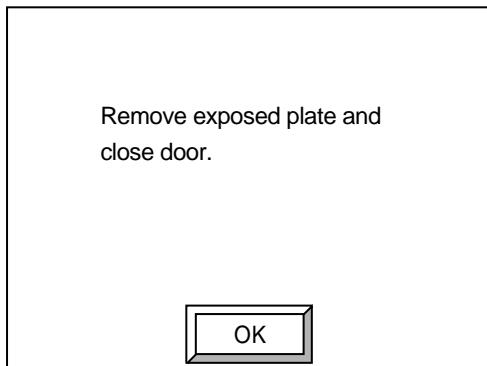
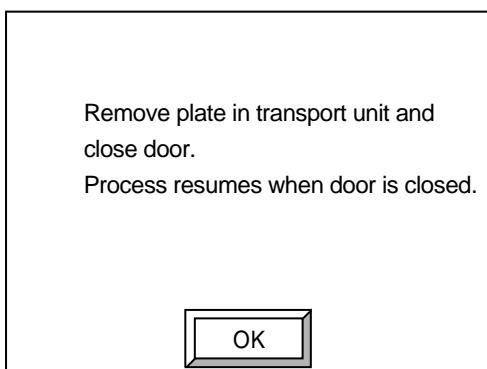
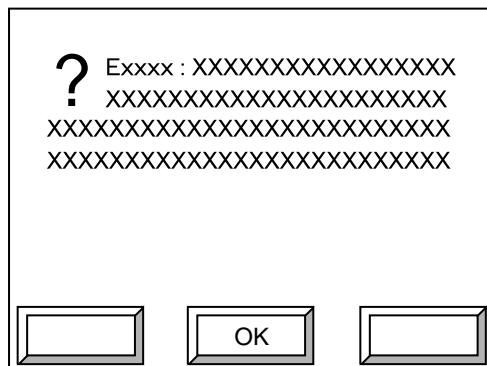
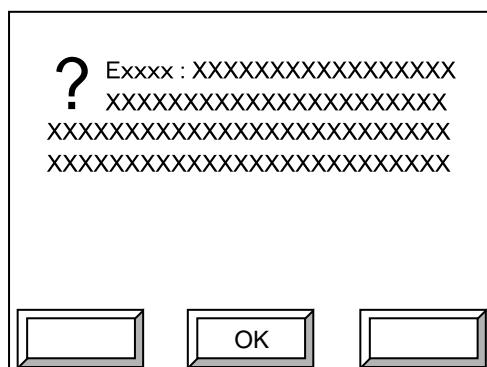

Fig. 7-1 Plate removal request message (1)
Fig. 7-2 Plate removal request message (2)
Fig. 7-17 Error display screen (1)
Fig. 7-19 Detailed error message screen
When certain operations are required of the operator by output command from the host computer or other reasons. A message like one of those shown in Fig. 7-1 through Fig. 7-15 and Fig. 7-17 through Fig. 7-19 will appear in the display and a buzzer will beep intermittently. If this occurs, follow the command of the request message.
**[NOTE]** When the message in Fig. 7-1 or Fig. 7-2 is displayed, the lock is released and the operation door opens.